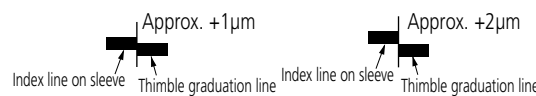

Fig. 3
2. The width of the graduation lines represent approximately $2\mu\text{m}$ to aid in reading to the nearest $1\mu\text{m}$. **(Fig. 3)**